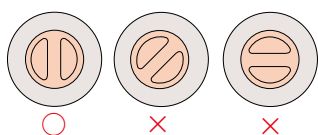

Fig.2
- To center the piping for JIS 10K flange, insert centering sleeves on the bolts and install the bolts to support the valve at the bottom and prevent it from falling through (only for 40, 50, 65 and 100mm sizes). (Fig.2)
[Fig.2]
- To center the piping for JIS 10K flange, insert centering sleeves on the bolts and install the bolts to support the valve at the bottom and prevent it from falling through (only for 100, 125 and 150mm sizes). (Fig.2)
- For horizontal installation, have the rib of the Bata-Check aligned vertically. (Fig. 2)